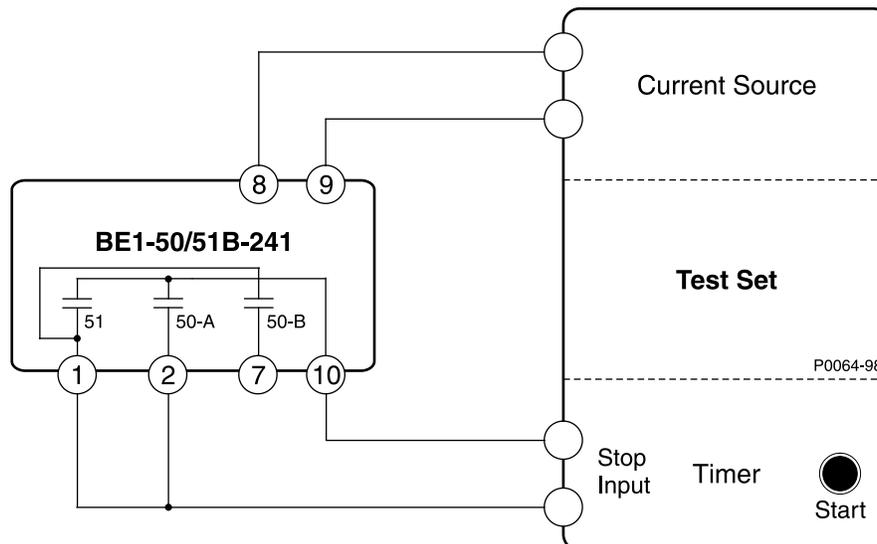

Figure 5-1. 51 Pickup, Time Dial, Integrating Reset, and 50-A Pickup Test Setup
- a. Connect the test setup shown in Figure 5-1.